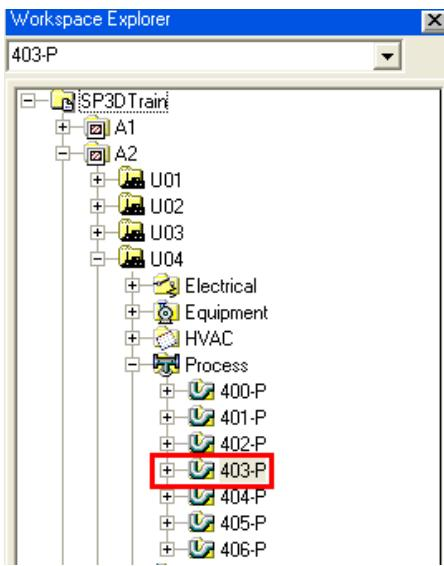

Figure 15. 62: Selected 403-P in the WorkSpace Explorer
4. Select the pipeline **403-P** from the **Workspace Explorer**, as shown in Figure 15. 62.